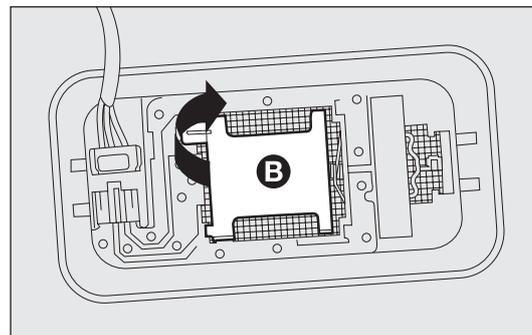

fig. 161
- open the cover B-fig. 161 as shown;